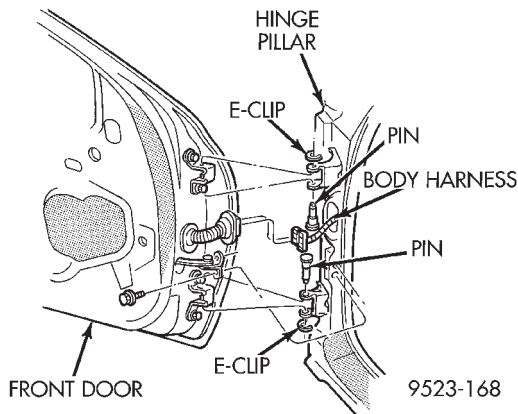

Fig. 25 Front Door
- (1) Open and support door on a suitable lifting device.
- (2) Disengage wire connector at hinge pillar.
- (3) Remove bolts holding door check strap to hinge pillar.
- (4) Remove clip holding hinge pin in lower door hinge (Fig. 25).
- (5) Remove pin from lower hinge.
- (6) Remove clip holding hinge pin in upper hinge.
- (7) Remove pin from upper hinge.
- (8) Separate door from vehicle.